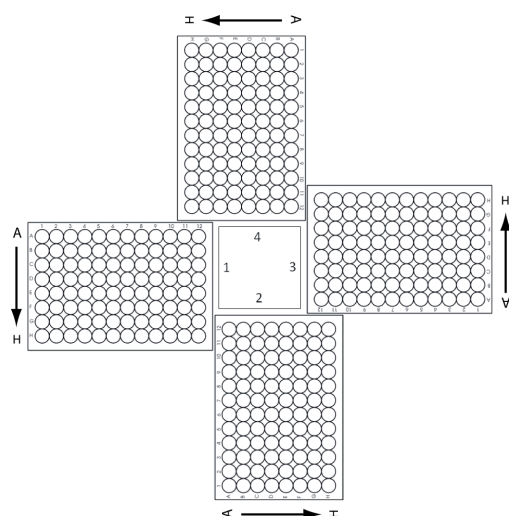

Figure 4 Agilent Labware MiniHub plate orientation
11 Load the Labware MiniHub according to Table 22, using the plate orientations shown in Figure 4.
- 1 Load the Labware MiniHub according to Table 22, using the plate orientations shown in Figure 4 on page 50.